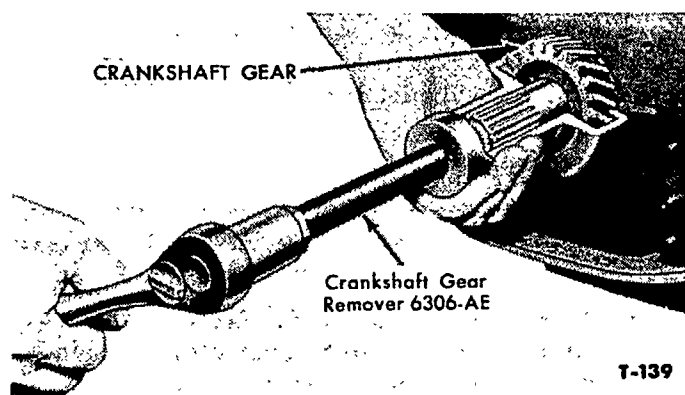

Figure 63—Removing Crankshaft Gear
- Remove the crankshaft gear with Remover 6306-AE as shown in Figure 63.